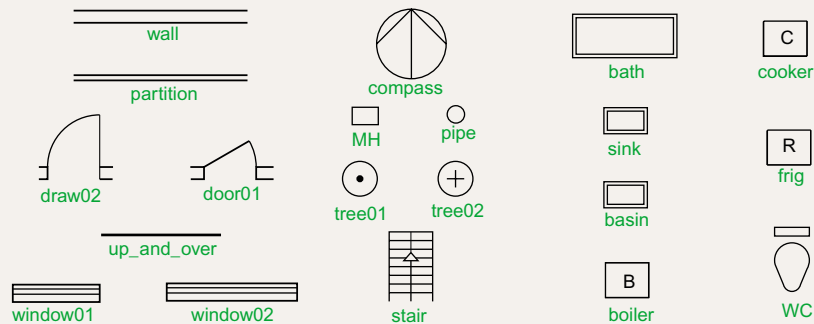

Fig. 9.21 Exercise 1
1. Construct the building symbols (Fig. 9.21) in a drawing saved as **symbols.dwg**. Then using the **DesignCenter** construct a building drawing of the first floor of the house you are living in making use of the symbols. Do not bother too much about dimensions because this exercise is designed to practise using the idea of making blocks and using the **DesignCenter**.